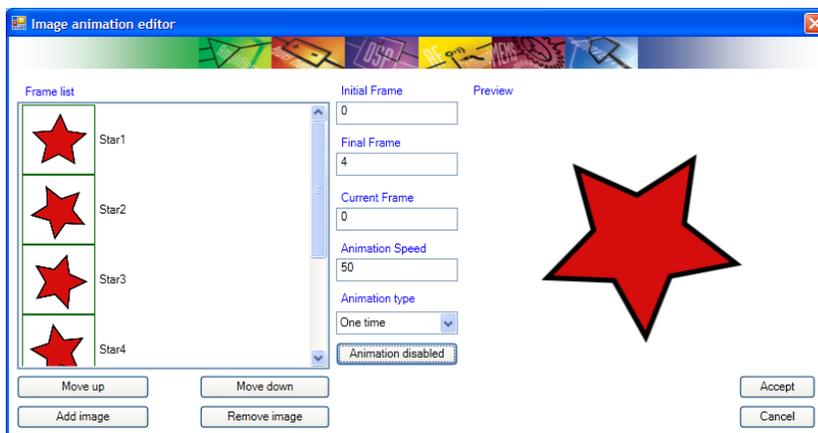

Figure33: Creating Animation Using Image Animation Editor
- Select Property Navigator → Image Settings to access the image animation editor, as shown in Figure33
- On the screen illustrated in Figure33 insert and arrange the frames which will define the animation or the static image if only one frame is defined.